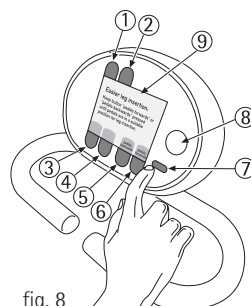

fig. 8
9. **Removing the feet:** To remove your feet after training, press the button "removal aid" (6). Last, press again the red "start/stop" button (8) (see fig. 8) to switch off the MOTomed. Other than that the MOTomed gracile12 will automatically switch to stand-by mode.
- Whenever you attach an *arm/upper body trainer* (14) (item no. 599) to your MOTomed gracile12 you have to extend the front leg (12) by approx. 15 cm/6 inches). However, please keep a minimum insertion of the front leg of 10 cm/4 inches) for optimal stability of the MOTomed.
- Open the two screw knobs (13) located underneath the arm/upper body trainer (14) and swivel the arm/upper body trainer (14) clockwise by 180 degrees. After that tighten the screw knobs (13) again.
- Open the screw knob (18) at the supporting module (16) and adjust it to the desired training height (after consultation of the doctor and therapist).
- Start of training:** Press the red "start/stop" button (8) (see fig. 8) and then the button "arm trainer" (3). The hand grips (17) now begin to move slowly. Let the motor move your arms passively in a short "warm-up" phase first.